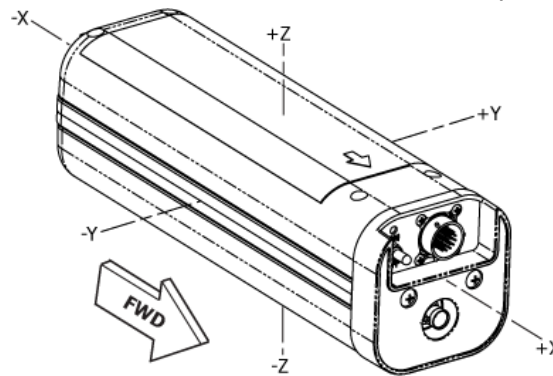

Figure 1 ELT Orthogonal Axes
- 1) The C406-N HM ELT was developed for helicopter installations and features an additional 5-axis G-Switch module, which allows the ELT to be activated in any of the six orthogonal axes. See Figure 1 ELT Orthogonal Axes.